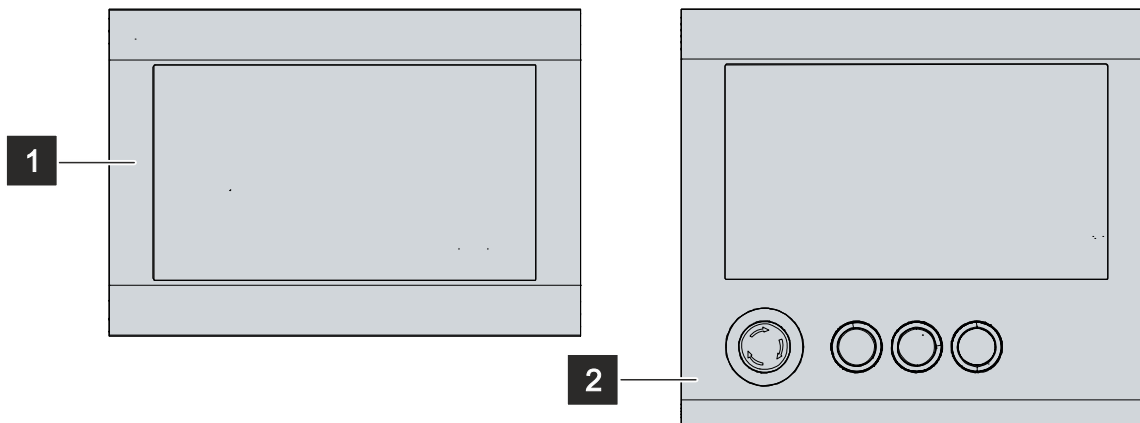

Fig. 1: Panel PC with and without push button extension
For explanations of the push button extensions and the functions, refer to the manual C9900-G072/G073. Figure 1 shows an example of the panel PC without (1) and with (2) push button extension.